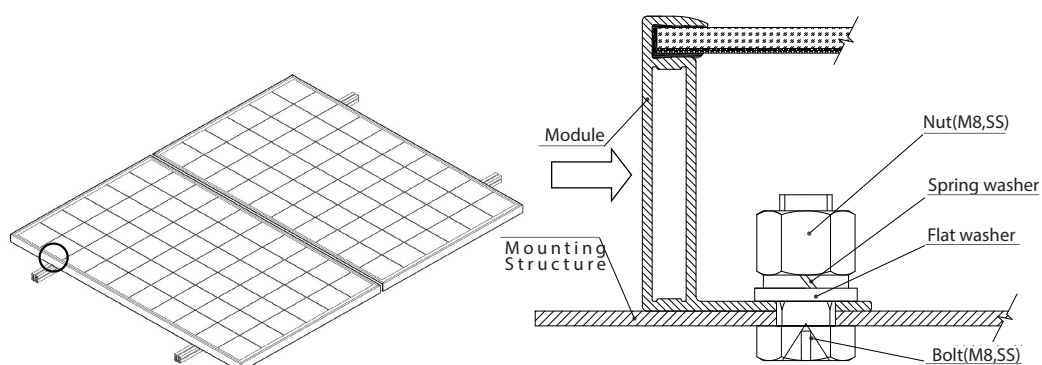

Figure 1
- **Mounting hole system:** Use anticorrosive M8 bolts to install the Module on the support frame through the installation holes on its own frame, as shown in Figure 1.